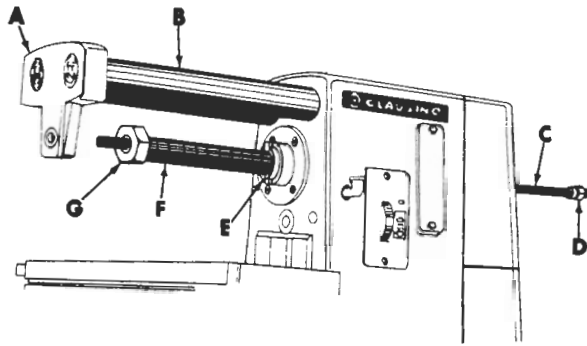

Figure 10
Slab mills, side mills and metal slitting saws are mounted on an arbor supported at one end by the spindle (E, fig. 10), and at the other end by the overarm support bracket (A). Keys in spindle face drive cutter arbor.